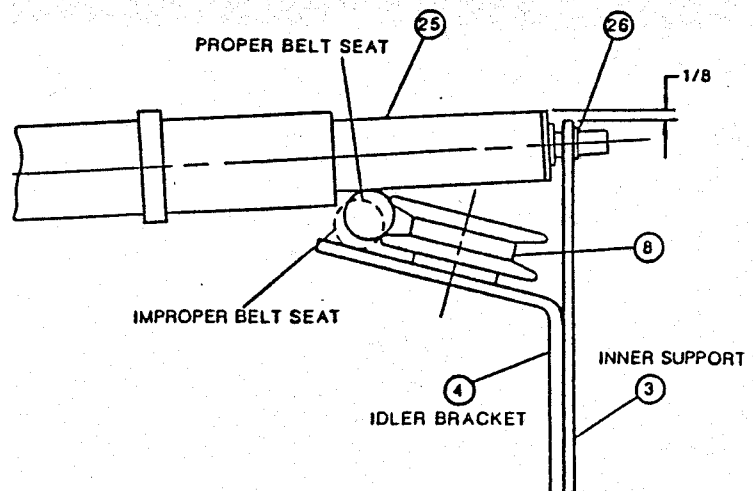

FIG. 2
Conveyor Rollers must have a $\frac{1}{8}$ inch uniform clearance above inner support as shown in Fig. 2.
To obtain the $\frac{1}{8}$ inch dimension as shown in Fig. 2 bend the idler bracket (4) up or down as needed. If an improper belt seat results, refer to page 6.